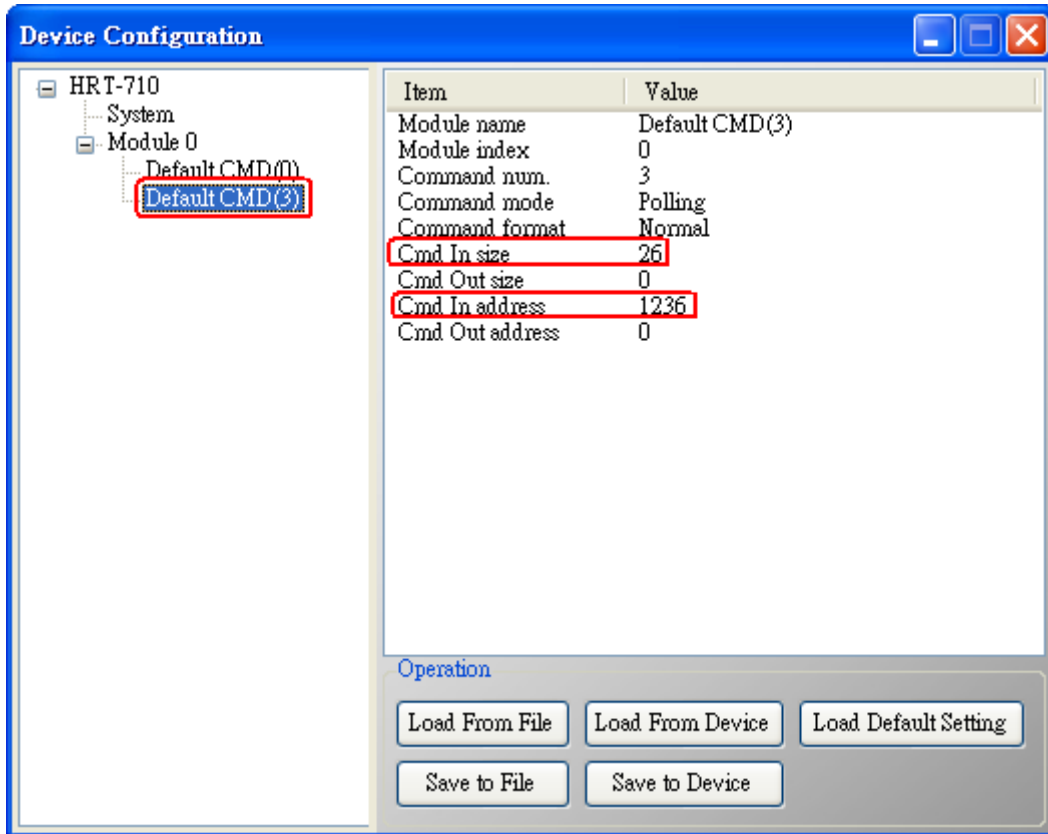

Figure 6-1 “Default CMD(3)” of HART device in HRT-710
- (1) When adding a new HART device to HRT-710, the “Default CMD(3)” will be added automatically. The Modbus start address and length of the “Default CMD(3)” will show in the “Cmd In address” and “Cmd In size” field like Figure 6-1. In the example they are 1236 (For MB Addr = 618 = 0x026A) and 26 (byte count=26 => word count=13).